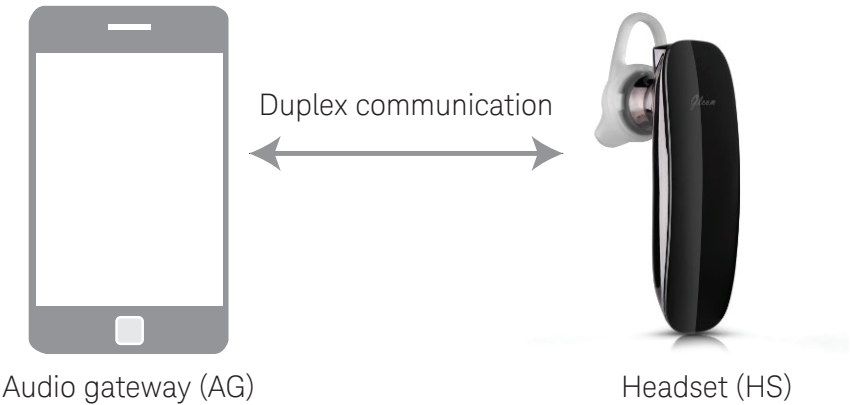

Figure 3. AG and HS in Hands-Free Profile
Hands-Free Profile (HFP) was originally used to control a mobile phone from a hands-free headset. In the HFP setting, the Audio Gateway (AG) is the device that is the gateway of the audio, both for input and output. Devices that typically act as Audio Gateways include mobile phones and personal computer. The Headset (HS) is the device acting as the Audio Gateway's remote audio input and output mechanism. The AG and HS is illustrated in Figure 3. HFP is a duplex communication whereby both AG and HS can communicate back and forth.